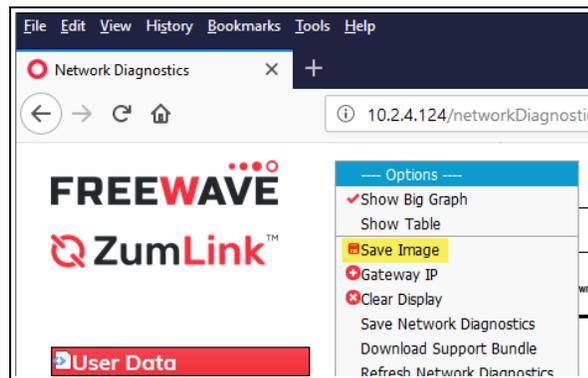

Figure 181: Options list box - Save Image option Selected
6. Click the **Options** list box arrow and select the **Save Image** option. Figure 181